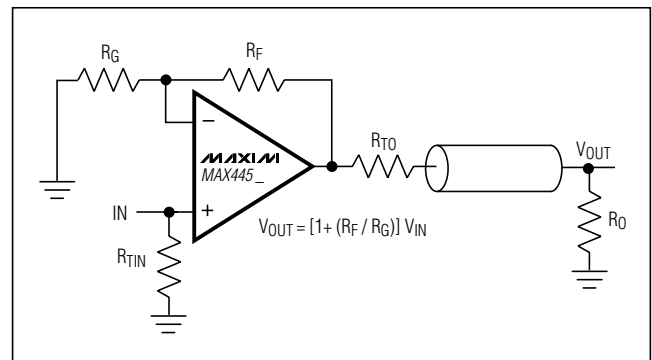

Figure 1a. Noninverting Gain Configuration
Select the gain-setting feedback (RF) and input (RG) resistor values to fit your application. Large resistor values increase voltage noise and interact with the amplifier's input and PC board capacitance. This can generate undesirable poles and zeros and decrease bandwidth or cause oscillations. For example, a noninverting gain-of-two configuration (RF = RG) using 1kΩ resistors, combined with 1pF of amplifier input capacitance and 1pF of PC board capacitance, causes a pole at 159MHz. Since this pole is within the amplifier bandwidth, it jeopardizes stability. Reducing the 1kΩ resistors to 100Ω extends the pole frequency to 1.59GHz, but could limit output swing by adding 200Ω in parallel with the amplifier's load resistor. Table 1 lists suggested feedback and gain resistors, and bandwidths for several gain values in the configurations shown in Figures 1a and 1b.